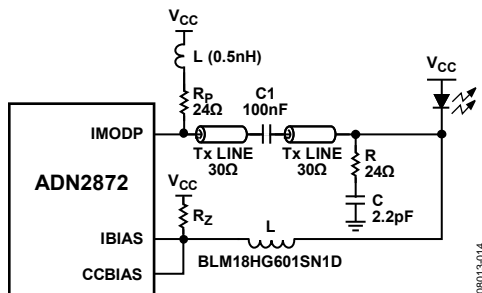
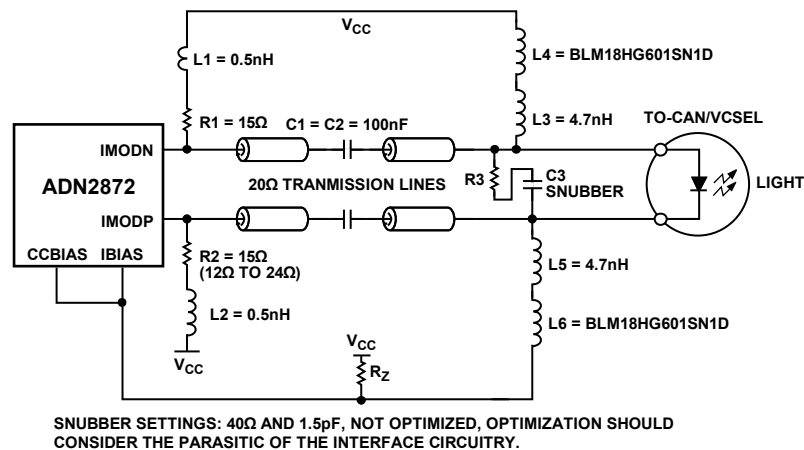

Figure 32. Recommended Interface for ADN2872 AC Coupling
Figure 33. Recommended Differential Drive Circuit
This on-chip resistor helps to damp out the low frequency oscillation observed from some inexpensive lasers. If the on-chip resistance does not provide enough damping, one external  $R_z$  may be necessary (see Figure 32 and Figure 33).
The schematic in Figure 32 describes the recommended circuit for interfacing the ADN2872 to most TO-Can or coax lasers. These lasers typically have impedances of 5  $\Omega$  to 7  $\Omega$  and have axial leads. The circuit shown works over the full range of data rates from 155 Mbps to 3.3 Gbps including multirate operation (with no change to PAVCAP and ERCAP values); see Figure 18, Figure 19, and Figure 20 in the Typical Performance Characteristics section for multirate performance examples. Coax lasers have special characteristics that make them difficult to interface to. They tend to have higher inductance, and their impedance is not well controlled. The circuit in Figure 32 operates by deliberately misterminating the transmission line on the laser side, while providing a very high quality matching network on the driver side. The impedance of the driver side matching network is very flat vs. frequency and enables multirate operation. A series damping resistor must not be used.
The 30  $\Omega$  transmission line used is a compromise between drive current required and total power consumed. Other transmission line values can be used, with some modification of the component values. The R and C snubber values in Figure 32, 24  $\Omega$  and 2.2 pF, respectively, represent a starting point and must be tuned for the particular model of laser being used.  $R_p$ , the pull-up resistor, is in series with a very small (0.5 nH) inductor. In some cases, an inductor is not required or can be accommodated with deliberate parasitic inductance, such as a thin trace or a via placed on the PC board.
Recommended component layouts and gerber files are available by contacting sales at Analog Devices. Note that the circuit in Figure 32 can supply up to 56 mA of modulation current to the laser, sufficient for most lasers available today. Higher currents can be accommodated by changing transmission lines and backmatch values. This interface circuit is not recommended for butterfly-style lasers or other lasers with 25  $\Omega$  characteristic impedance. Instead, a 25  $\Omega$  transmission line and inductive (instead of resistive) pull-up is recommended. Contact sales for recommendations on transmission lines and backmatch values.
The ADN2872 also supports differential drive schemes. These can be particularly useful when driving VCSELs or other lasers with slow fall times. Differential drive can be implemented by adding a few extra components. A possible implementation is shown in Figure 33.
In Figure 32 and Figure 33, Resistor  $R_z$  is required to achieve optimum eye quality. The recommended value is approximately 200  $\Omega$  ~ 500  $\Omega$ .
**Table 6. ADN2872 Response to Various Single-Point Faults in AC-Coupled Configuration, as Shown in Figure 32**